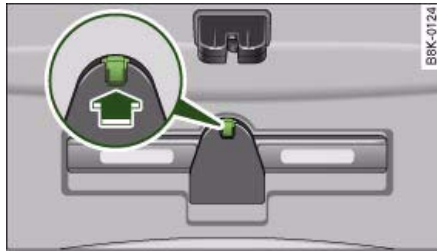

Fig. 222 Warning triangle fitted inside boot lid
- To remove the warning triangle, push the tab in the direction indicated by the arrow ⇒ fig. 222 and pull the retainer down.